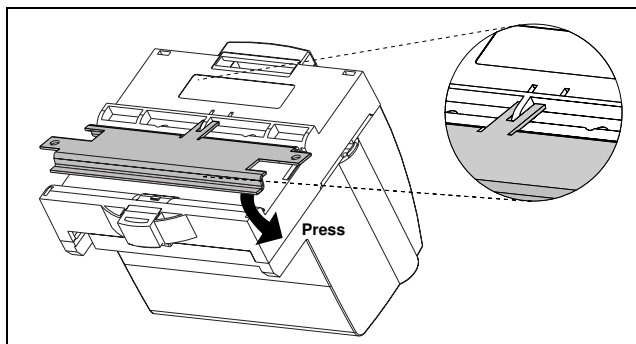

Figure 3. Mounting the FP-3000 onto a Panel Mount Accessory
- a. Snap the panel mount accessory onto the module as shown in Figure 3.